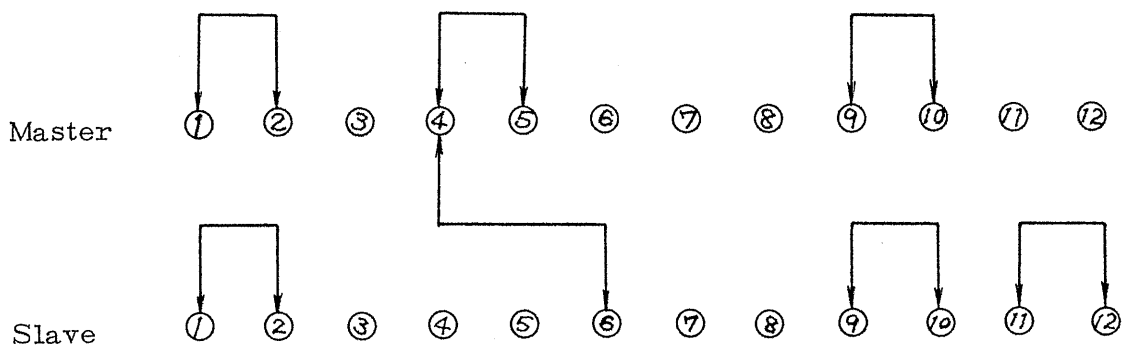

Fig. 8
- (1) After connecting the equipment as illustrated in Figs. 8 and 9, turn the output voltage control knob of the slave clockwise to its extreme position, and then control the output voltage by means of the output voltage control knob of the master. Turning the knob increases or decreases the output voltage of both equipments substantially at the same rate.